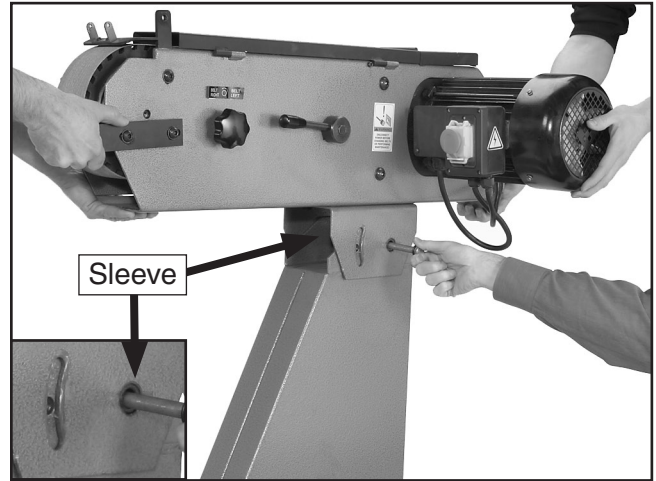

Figure 10. Base installation.
3. With the aid of a couple helpers, lift the sander, spread the yoke on the sander slightly and set onto the base (see **Figure 10**).